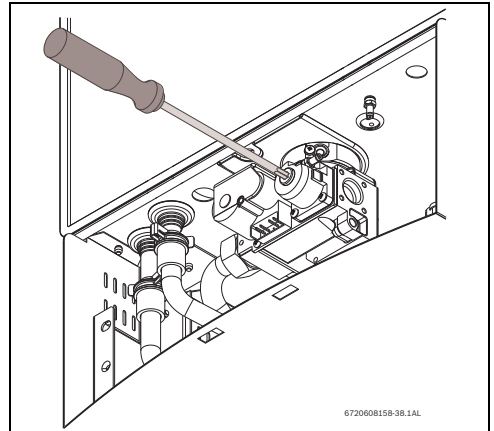

Fig. 75 Adjusting P2 CO₂ level
- ▶ Remove yellow painted #40 Torx cover from the front of the gas valve. (fig. 75) A plastic #40 Torx screw will be revealed.